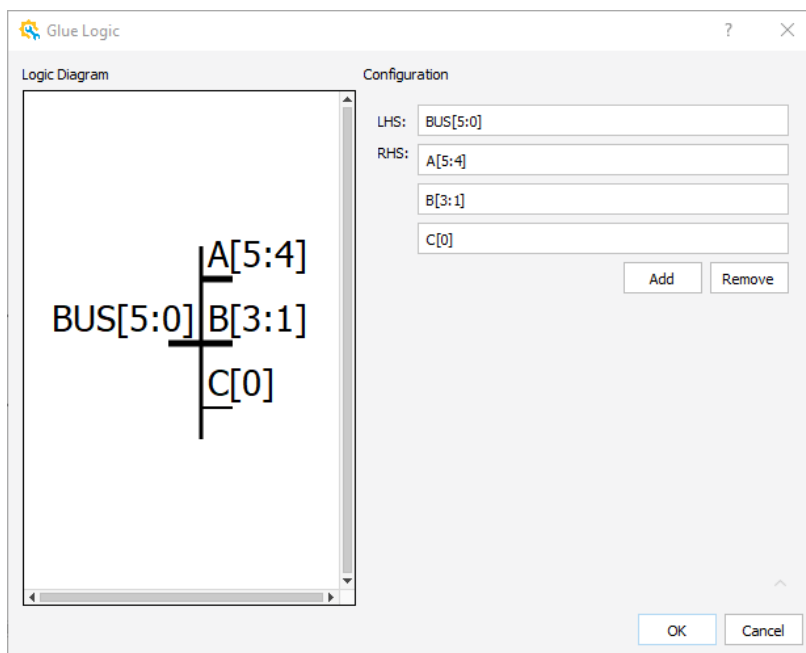

Figure 2.60. Glue Logic Wizard for Split Module
- From the IP Catalog, select the **split** module. Double-click the split module or drag and drop the split module to the Schematic view. A Glue Logic wizard (Figure 2.60) pops up.